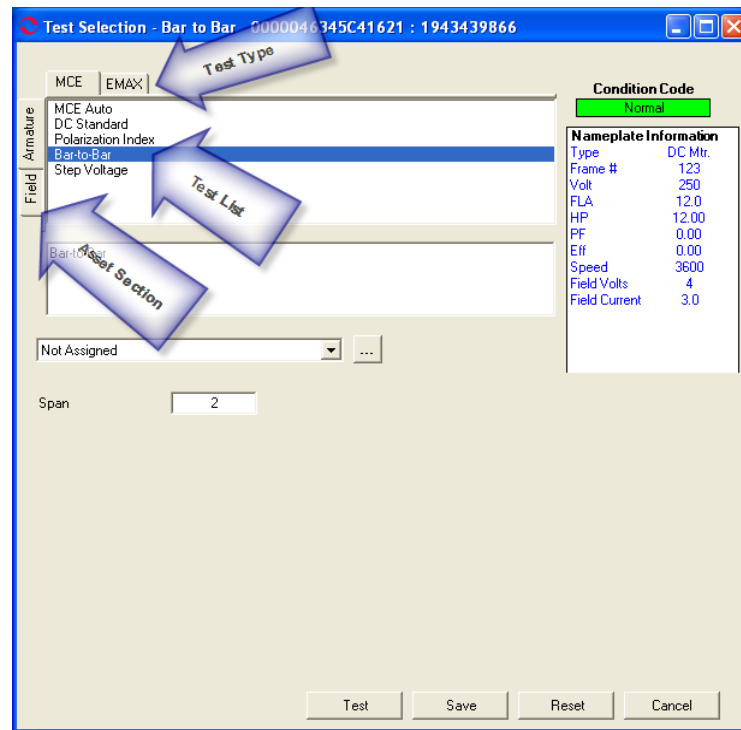

Figure 5-56: Test Selection Window
5. Select the Test Selection icon  on the toolbar. The Test Selection window opens, Figure 5-56.